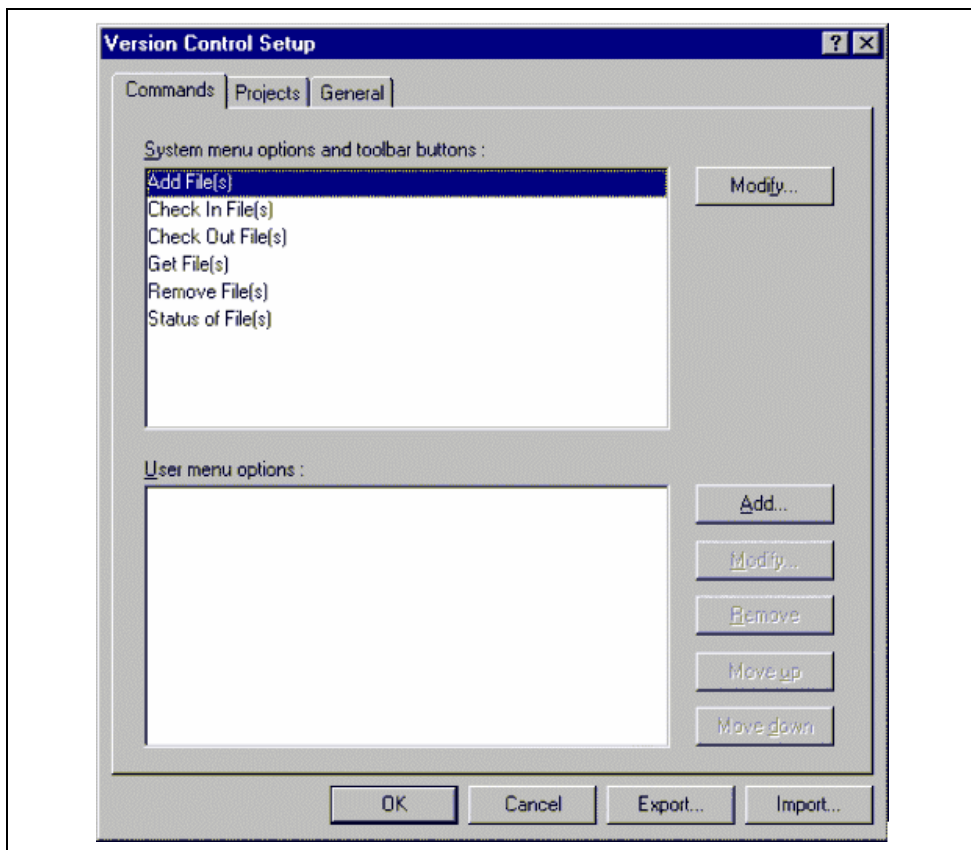
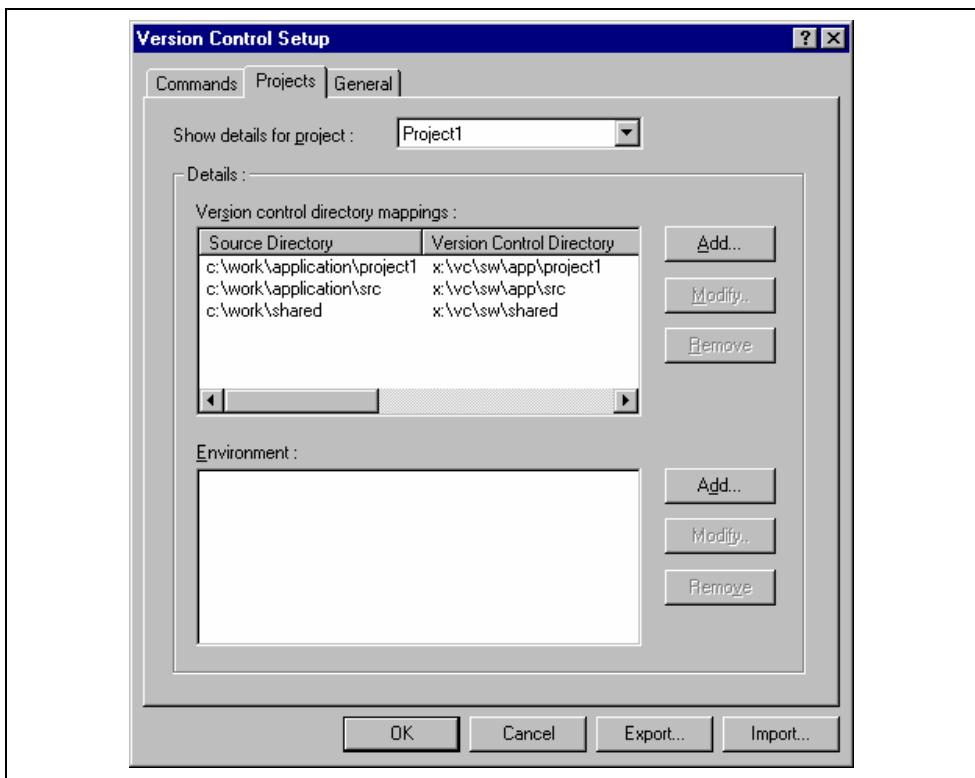

Figure 8.1: Version Control Setup Dialog Commands Tab
Figure 8.7: Version Control Setup Dialog Projects Tab
The custom version control support allows you the most flexibility in specifying how a version control system is to be used. To configure it, select **[Version Control->Configure...]**. The “Version Control Setup” dialog will be displayed (figure 8.1).
1. Select **[Version Control->Configure...]**. The dialog shown in figure 8.1 will be displayed.
1. Select [**V**ersion **C**ontrol->**C**onfigure...]. The dialog shown in figure 8.1 will be displayed.
1. Select [**Version Control->Configure...**]. The dialog shown in figure 8.1 will be displayed.
However, when executed, this command can only ever get the file MAIN.C. To resolve this problem, HEW uses a system of placeholders and directory mappings. The latter tell the HEW which "working" directories (i.e. where source files are being worked on) map to which "controlled" directories (i.e. where the source files are stored in the version control system). Mappings between these two directory systems can be specified via the "Projects" tab of the "Version Control Setup" dialog (figure 8.7).
1. Select [**Version Control->Configure...**]. The dialog shown in figure 8.1 will be displayed. Select the "Projects" tab, and the dialog shown in figure 8.7 will be displayed.
1. Select [**Version Control->Configure...**]. The dialog shown in figure 8.1 will be displayed. Select the “Projects” tab, the dialog shown in figure 8.7 will be displayed.
Select the “Projects” tab of the “Version Control Setup” dialog to view the current settings (figure 8.7).